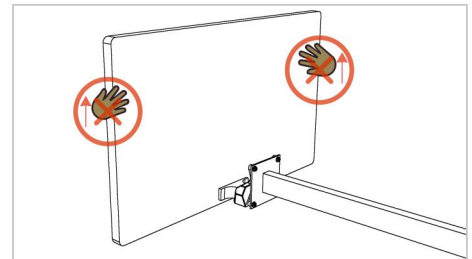

Figure 5
**Make sure that the VESA adapter comes off when you pull the monitor up. This is because the monitor is designed to remove the original Samsung monitor base.** (Figure 5)